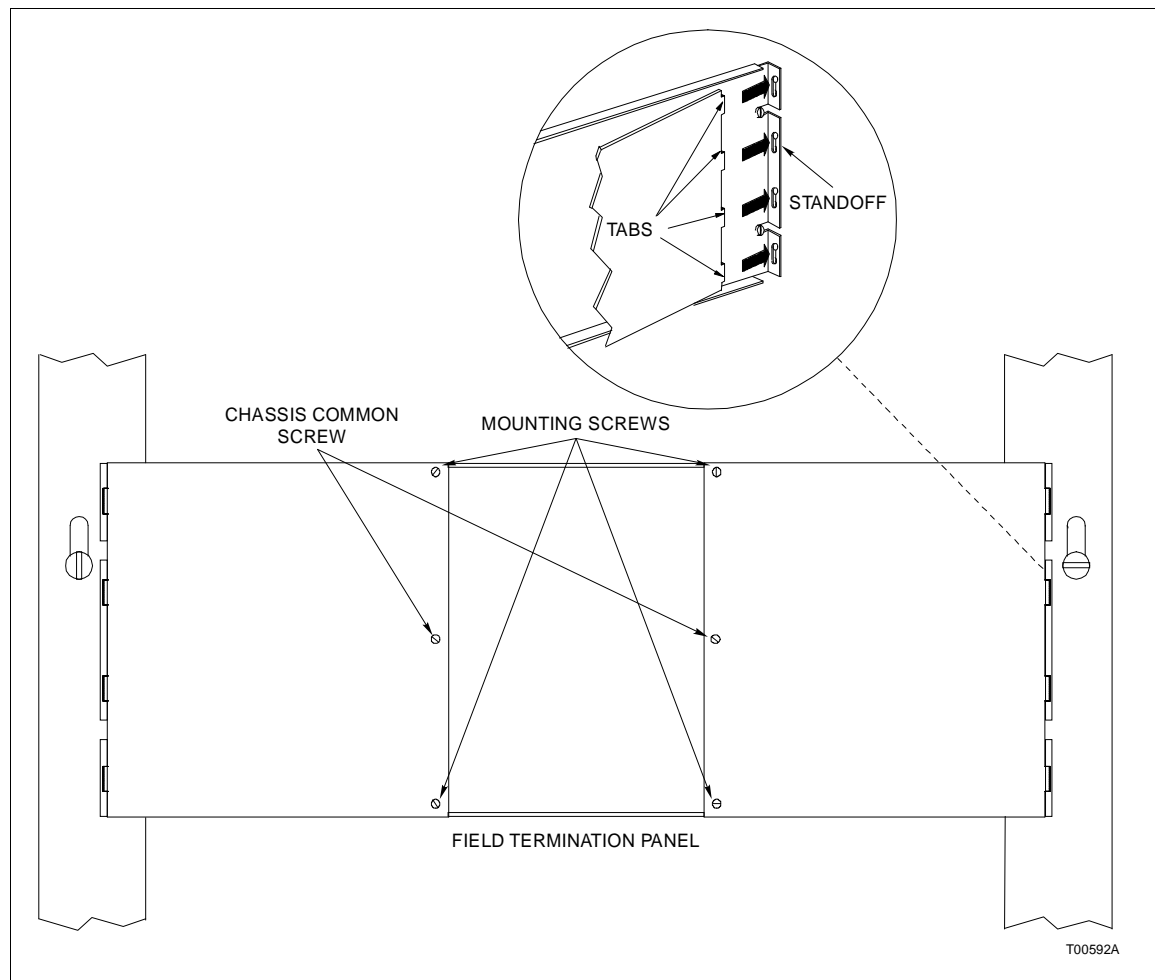

Figure 2-3. Termination Unit Mounting Diagram
1. Insert the tabs of the circuit board into the proper slots of the field termination panel standoff (see Figure 2-3) and slide the circuit board into position.
2. Secure the termination unit circuit board to the field termination panel with two number ten self-tapping screws (see Figure 2-3).